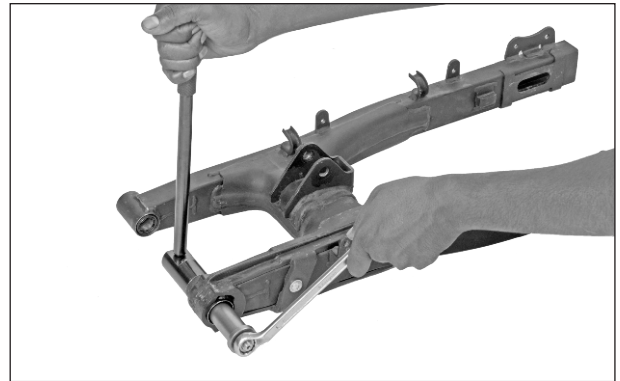

Fig. 6.146
- Using the special tool remove the needle bearing (2 nos.) from the swing arm assembly. (Fig. 6.146)